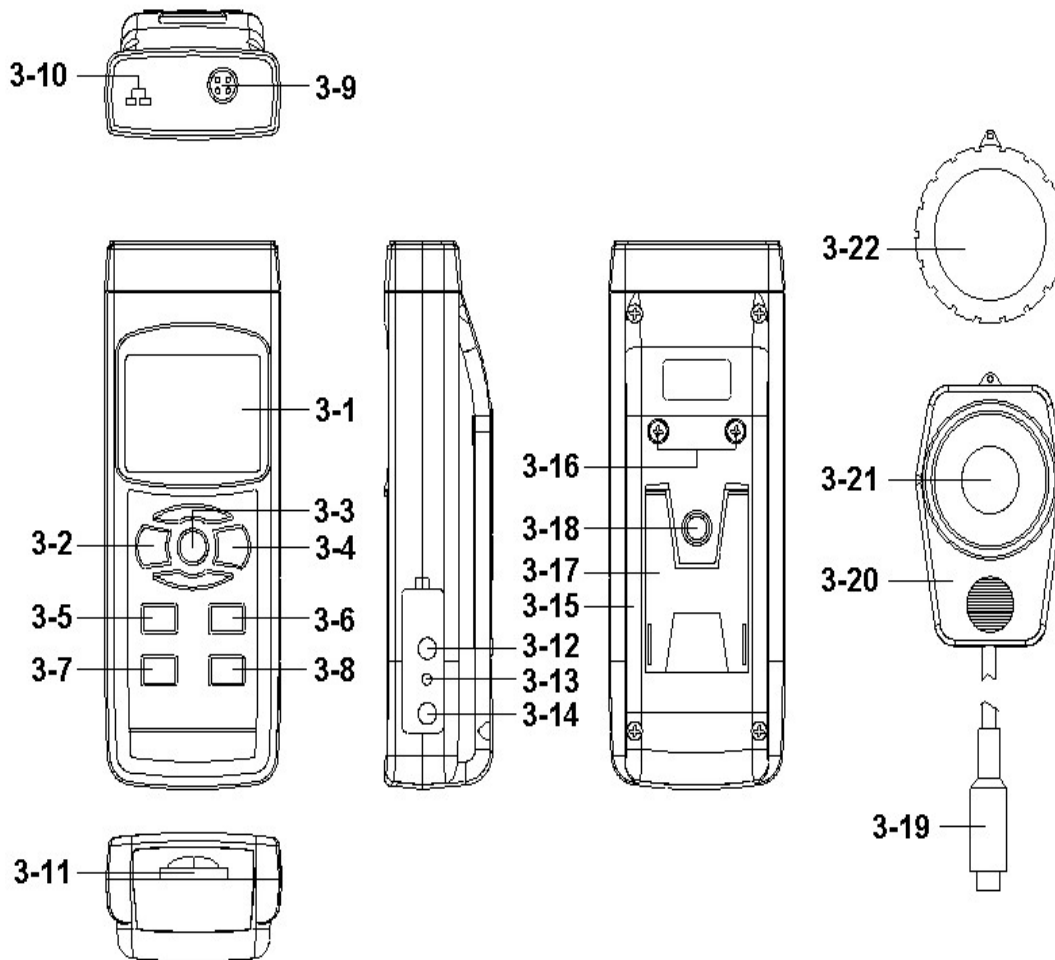

Fig. 1
(3-2, Fig. 1) > 3 seconds continuously.
Pressing the " Function Button " (3-6, Fig. 1)
just release the " Function Button " (3-6, Fig. 1), the
- a. Install the " Probe Plug " (3-19, Fig. 1) into the
" Probe Input Socket " (3-9, Fig. 1).
(3-2, Fig. 1). The display will show the " LUX " (Ft-cd)
face the " Light Sensor " (3-21, Fig. 1) against to the
- * *If intend to change the Light unit (LUX, Ft-cd), press the Unit Button " (3-5, Fig. 1) > 3 seconds, the unit will change from LUX, Ft-cd in sequence, until the desired unit is present on the Display release the Unit Button ", the select unit will save into the memory with default.*
- * ***During the normal Light measurement, if blank the Light Sensor (3-21, Fig. 1) by " Sensor Cover " (3-22, Fig. 1), the display not show zero value, press the " ▲ Button " (3-5, Fig. 1) and " ▼ Button " (3-6, Fig. 1) together > 3 seconds, Display will show zero value. Upon completion, remove the sensor cover.***
- b. Not install the LUX " Probe Plug " (3-19, Fig. 1) into the " Probe Input Socket " (3-9, Fig. 1)
- c. Plug the Thermocouple Temp. Probe (Type K Temp. probe or Type J Temp. probe, optional) into " Type K/J Probe Input Socket " (3-10, Fig. 1)
During the measurement, press the " Hold Button " (3-3, Fig. 1) once will hold the measured value & the LCD will display a " HOLD " symbol.
- 1) The data record function records the maximum and minimum readings. Press the " MAX/MIN Button " (3-4, Fig. 1) once to start the Data Record function and there will be a " REC " symbol on the display.
- a) Press the " MAX/MIN Button " (3-4, Fig. 1) once, the " REC MAX " symbol along with the maximum value will appear on the display.
- b) Press the " MAX/MIN Button " (3-4, Fig. 1) again, the " REC MIN " symbol along with the minimum value will appear on the display.
- c) Press the " MAX/MIN Button " (3-4, Fig. 1) again, the the " MIN " symbol will be appeared, LCD only show the " REC " symbol, the meter start the Data Record function again.
- 3) To exit the memory record function, just press the " MAX/MIN Button " (3-4, Fig. 1) > 3 seconds continuously. The display will revert to the current reading.
- 1) After power ON, the " LCD Backlight " will light automatically. During the measurement, Push the " Backlight Button " (3-2, Fig. 1) once , will turn OFF the " LCD Backlight ".
Prepare a " SD memory card " (1 G to 16 G, optional), insert the SD card into the " SD card socket " (3-11, Fig. 1). The front panel of the SD card should face against the the down case.